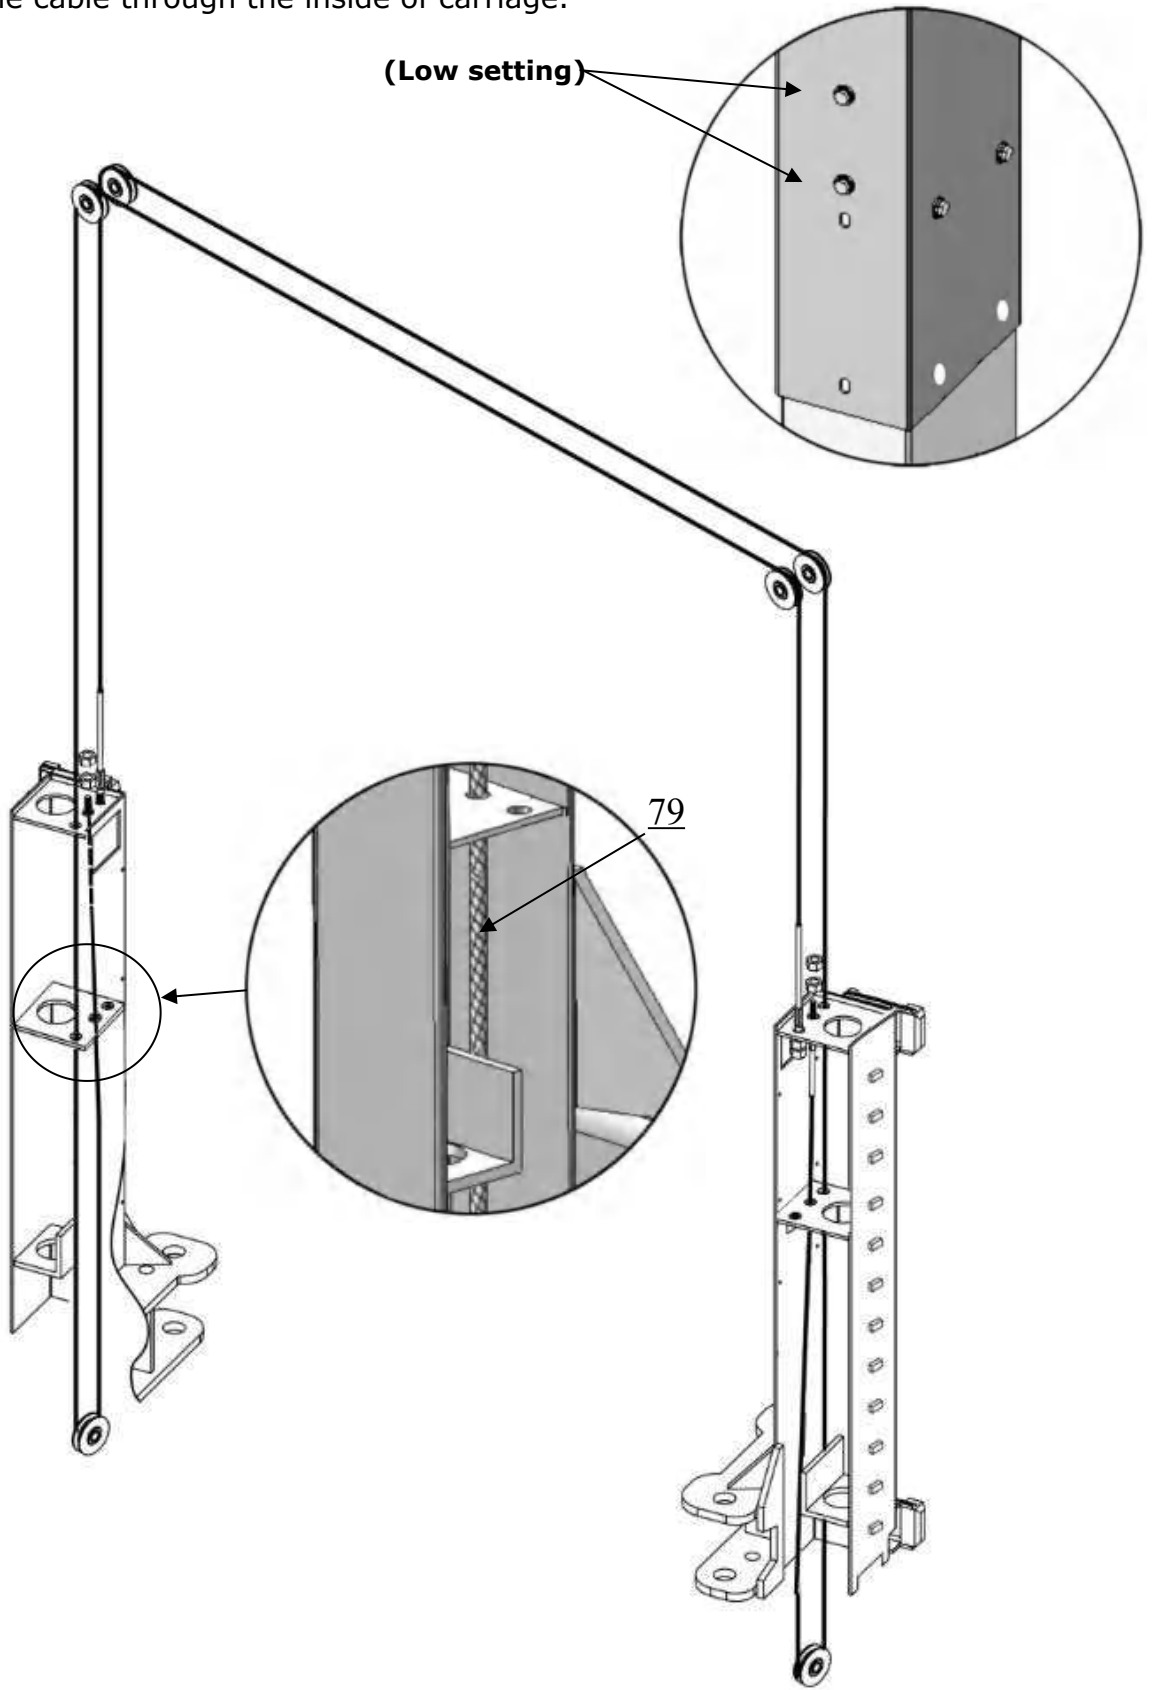

Fig.30
2.2 OHX-10H cable connection of low setting (See Fig. 30).